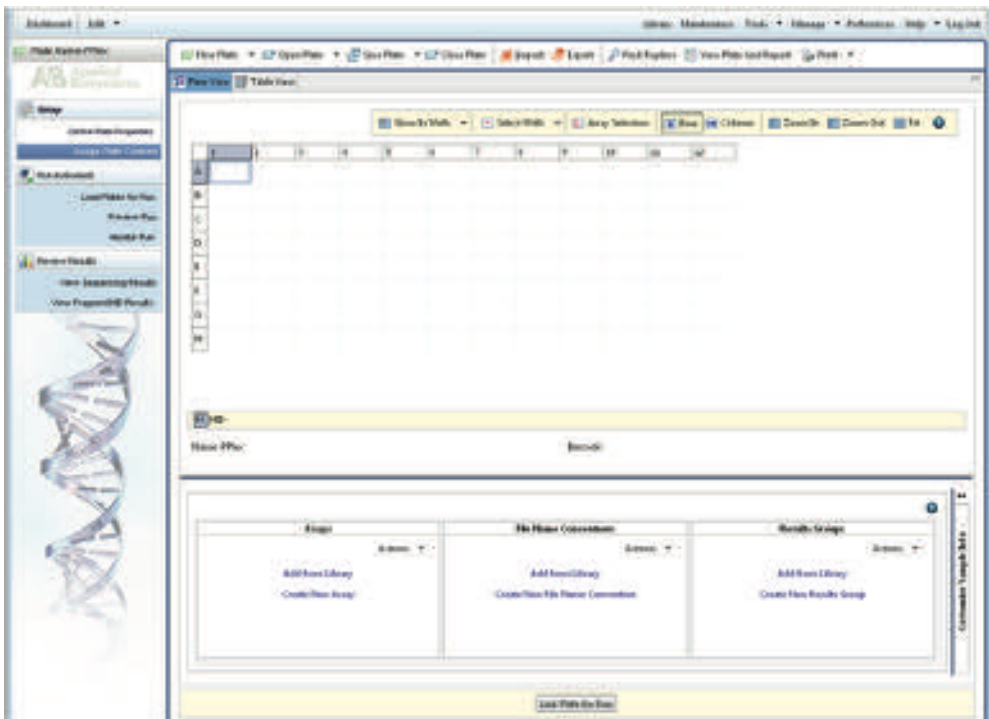

Figure 13. Assigning plate contents.
5. Select “Assign Plate Contents” (Figure 13).